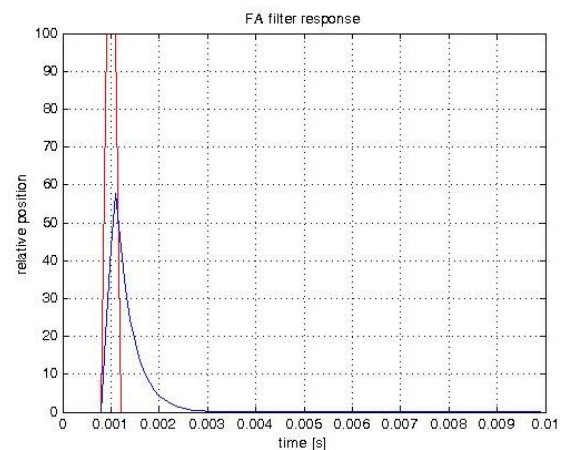

Figure 48: Moderate filtering (setting 63)
- Moderate filtering, setting 63, (Figure 48)